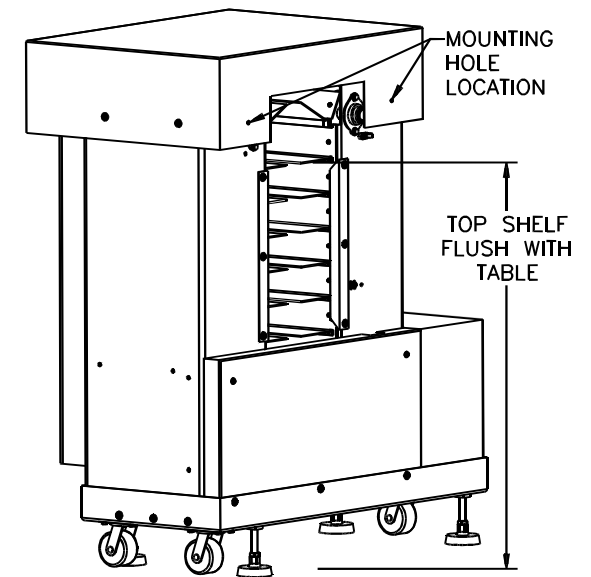

Figure 2-8. Elevator Mounting
1. The top shelf should be 36" (914 mm) from the floor as shown in Figure 2-8. Adjust the leveling pads as necessary.
3. Remove the two sets of screws and washers from the holes in the right side of the top cover of the elevator (Figure 2-8). Save them for later use.
4. Move the trimmer next to the elevator such that the two holes in the right side of the top cover of the elevator (Figure 2-8) line up with the two slots on the left side of the trimmer's sheet metal enclosure.